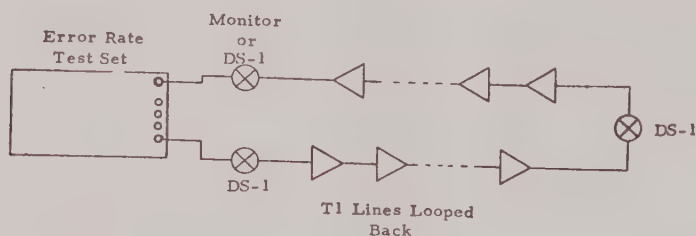

Figure 1A
- 3.3.2 The Error Rate Test Set may be used to test any T1 line using either its bipolar-violation or logical-error detection schemes. The only constraint on the choice of detection is that logical-error detection requires the use of the standard test sequence whereas bipolar-violation detection may be applied to any signal. An example of the better type of detection using message/data as the signal would be the in-service monitoring of a circuit without the necessity of removing it from service. Figures 1A and 1B